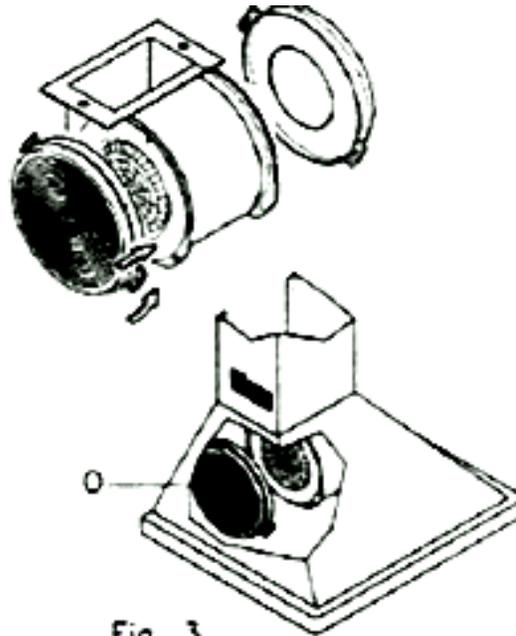

Fig. 3
- 3) Place the new carbon filters (which have two fixing tongues), turning clockwise so that the tongues latch onto the motor's sides. (Fig. 3)